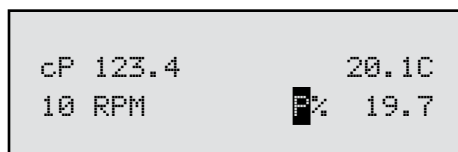

Figure II-18
1. Pressing the PRINT key once (for less than three (3) seconds) will result in the printing of one standard print line.
2. If the PRINT key is pressed and held for more than three (3) seconds, the DV-II+Pro will then begin *continuous* printer output at a print rate interval selected via the Options menu (see Section III.4). The display will show a flashing P in front of the % sign. See Figure II-18.